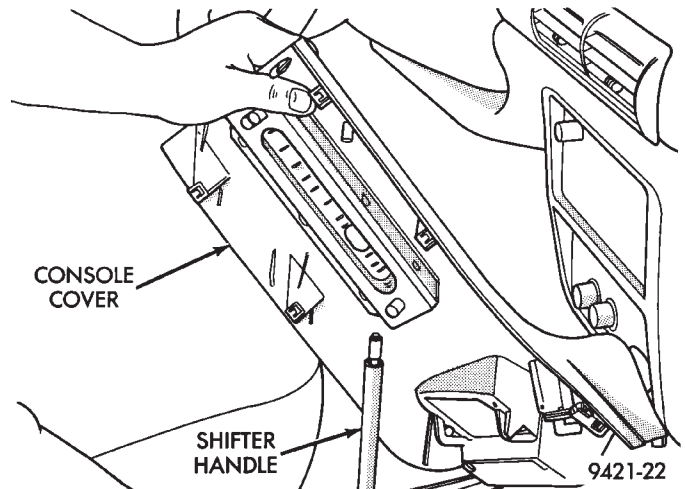

Fig. 26 Console Bezel Removal
- (2) Remove console bezel from vehicle (Fig. 26).